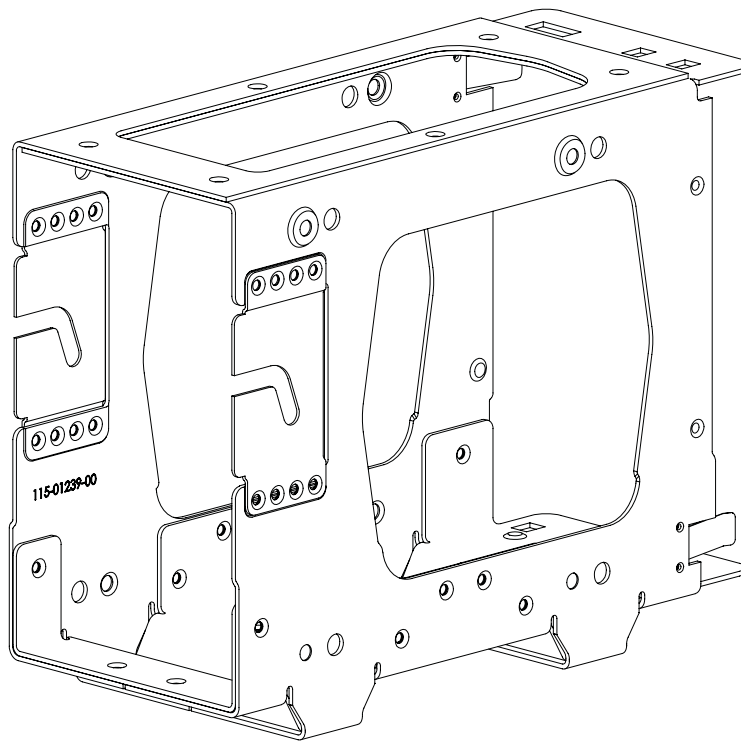
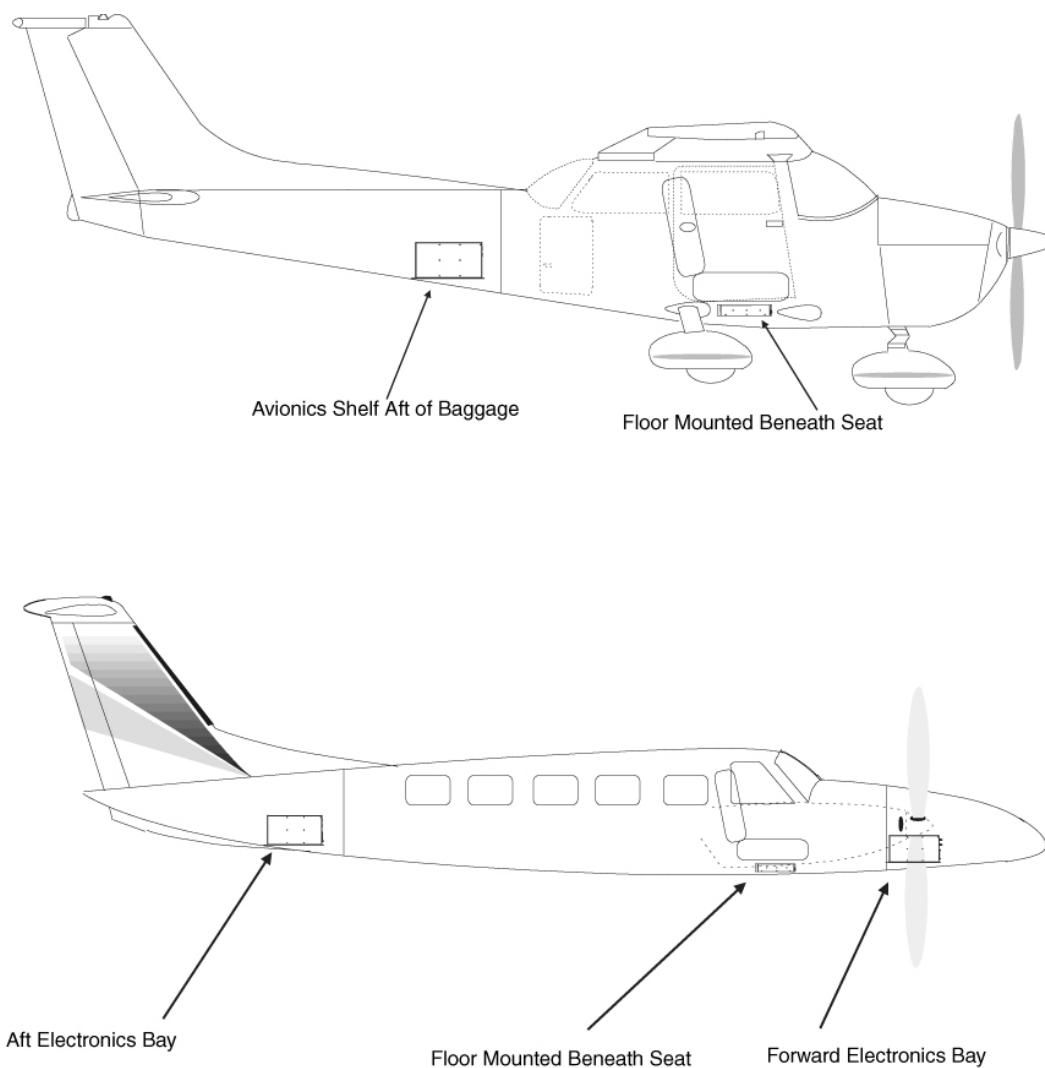

Figure 2-3 GIA 63(W) Standalone Rack
Figure 2-4 GIA 63(W) Standalone Rack, Suggested Mounting Locations
Figure 2-3 and Figure B-4 show the GIA 63(W) remote mounted stand-alone rack. The remote rack can be installed in a variety of locations, such as the electronics bay, under a seat, or on an avionics shelf behind the rear baggage area. Refer to Figure 2-4 for suggested mounting locations. Leave sufficient clearance between the GIA 63(W) and any obstruction. The rack should be mounted to a surface known to have sufficient structural integrity to withstand additional inertia forces imposed by a 7.5-pound (3.4 kg) unit. Figure B-3 gives the GIA 63(W) stand-alone rack dimensions.